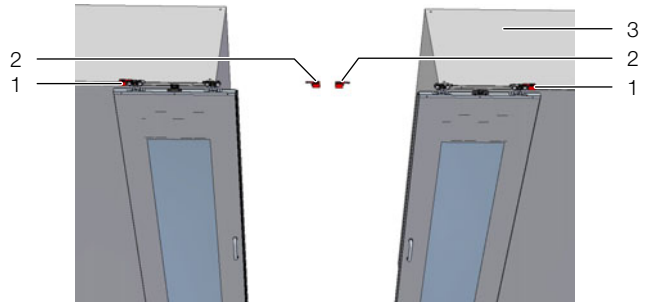

Fig. 28: Positioning the outer stopper
- Open the door sufficiently wide so that the inside edge of the door's window frame closes with the inside edge of the side panel (the inside of the aisle containment is so largely free, see fig. 28).